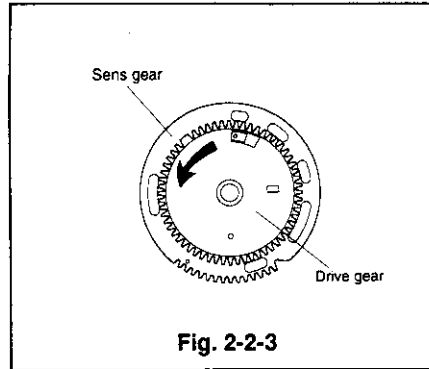

Fig. 2-2-3
- ⑤ Remove the takeup arm.
- ⑥ To remove the drive gear from the sens gear, turn and pull the drive gear in the direction shown by the arrow shown in Fig. 2-2-3.